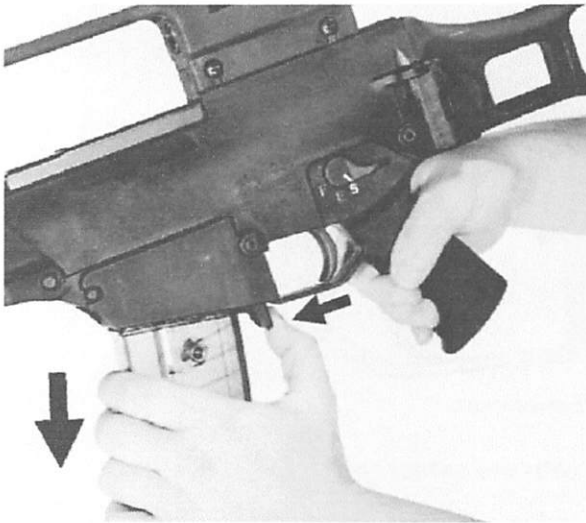

Fig. 15 Remove the magazine
- ⇒ Push magazine catch forwards and remove magazine (Fig. 15).
- ⇒ Push magazine catch forwards and remove empty magazine (Fig. 15).